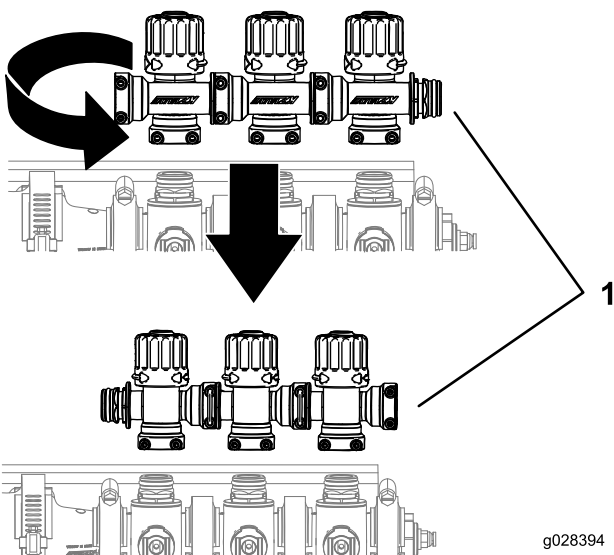

Figure 11
5. Rotate the boom bypass valve cluster 180 degrees as shown in Figure 11.